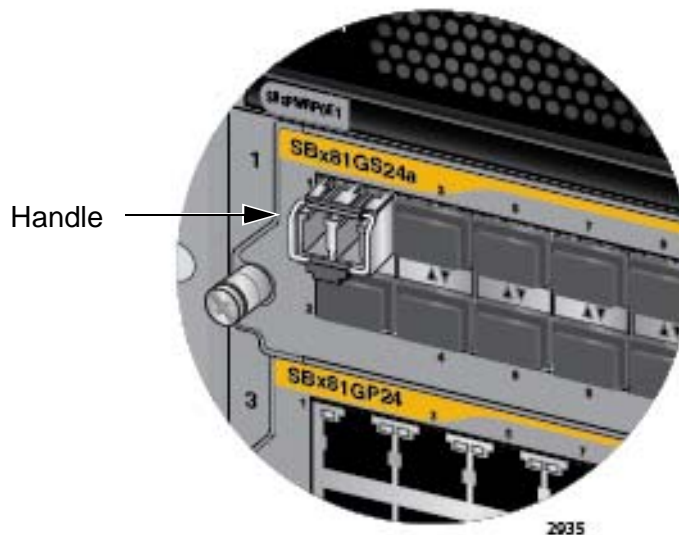

Figure 84. Verifying the Position of the Handle on an SFP Transceiver in the AT-SBx81GS24a Line Card
6. Before connecting the cable, verify the position of the handle on the SFP transceiver. The handle should be in the up position if the transceiver is in the top row on the line card, as shown in Figure 84, or the down position if the transceiver is in the bottom row.